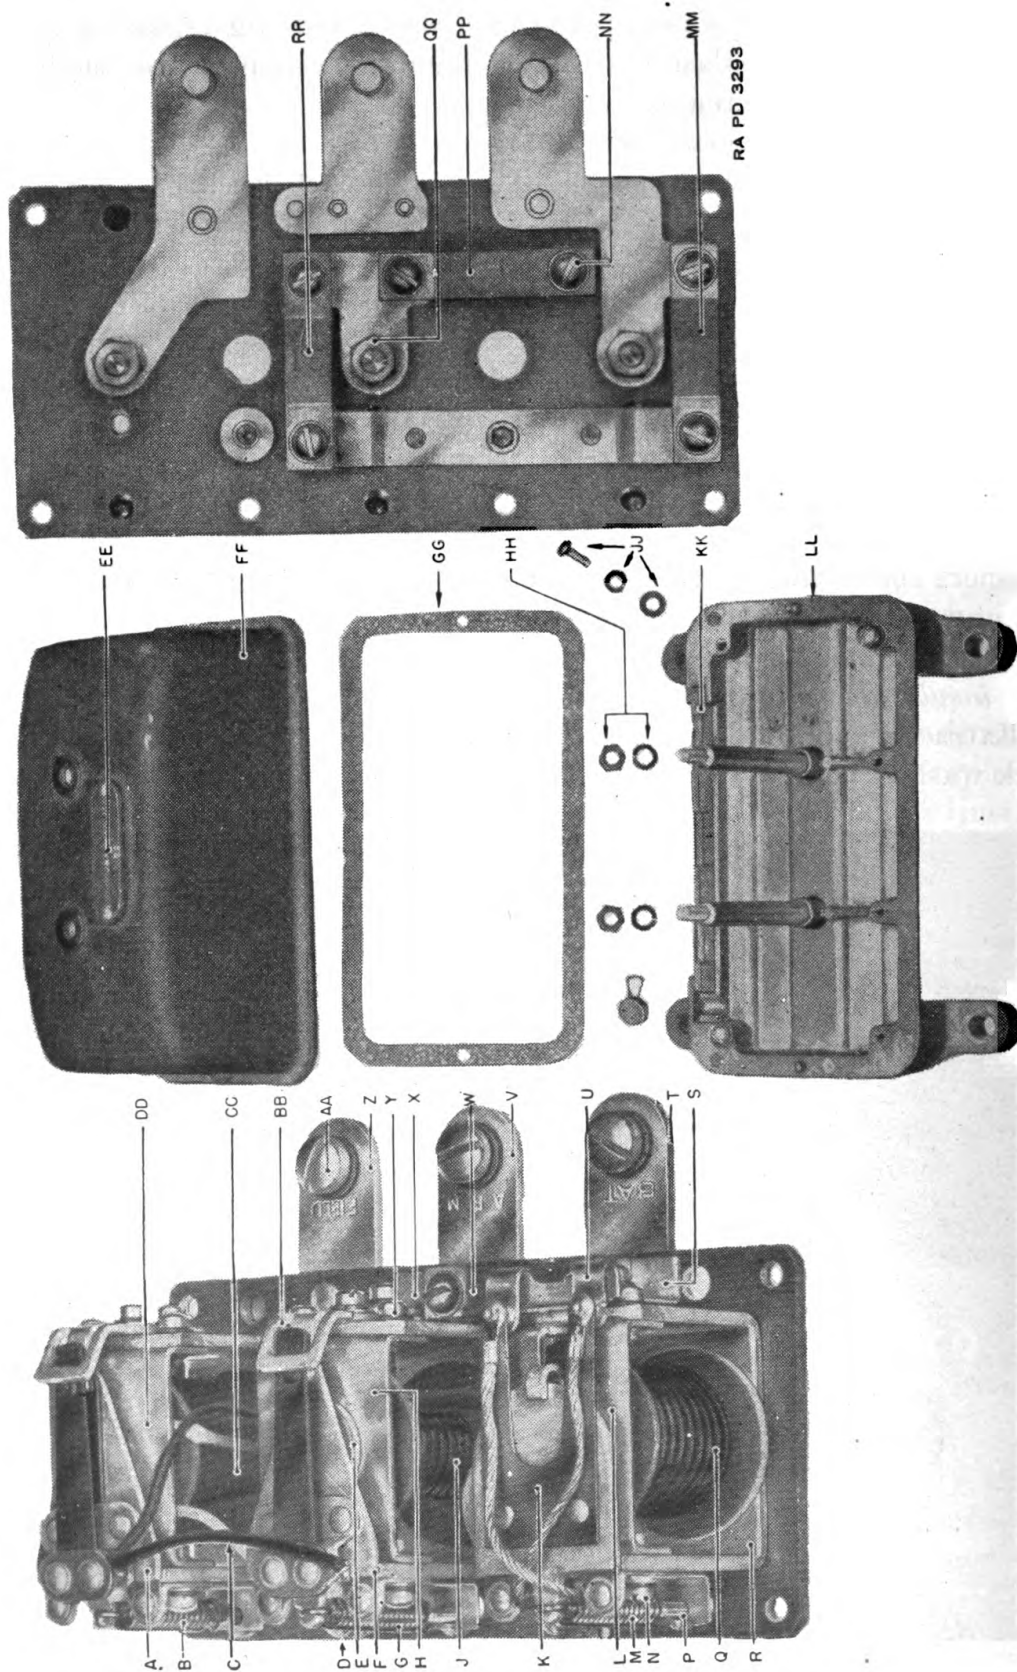

FIGURE 51.—Voltage regulator, exploded view.
e. Regulator disassembly (fig. 51).—Tools: